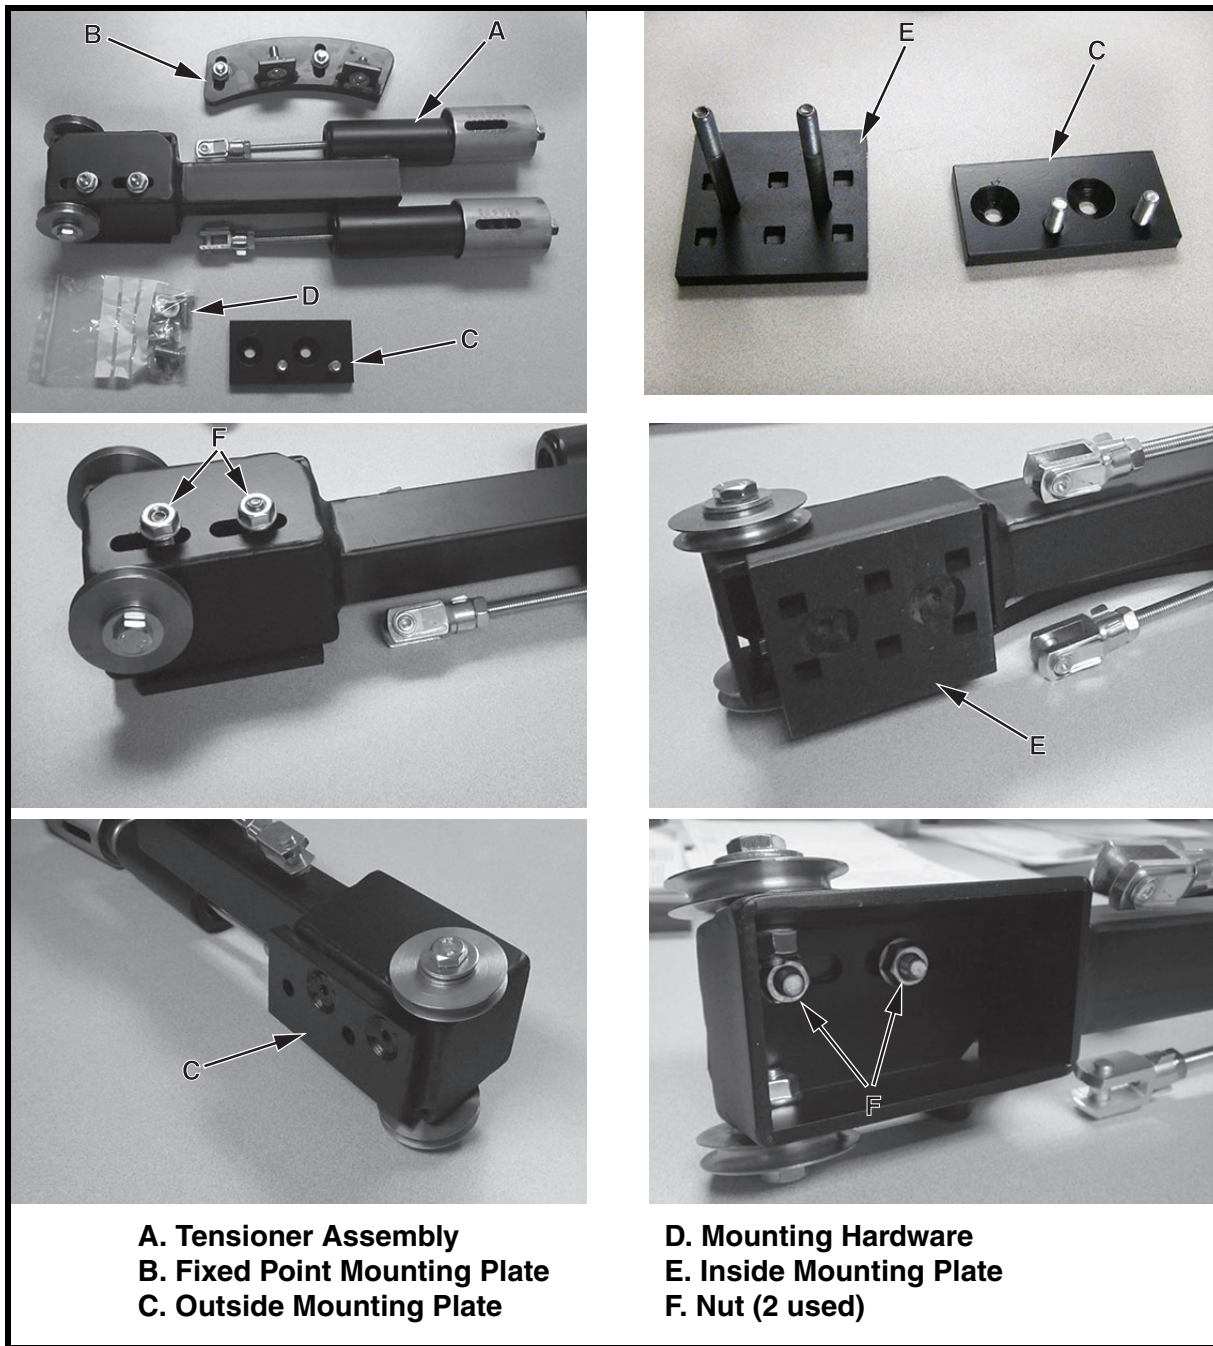
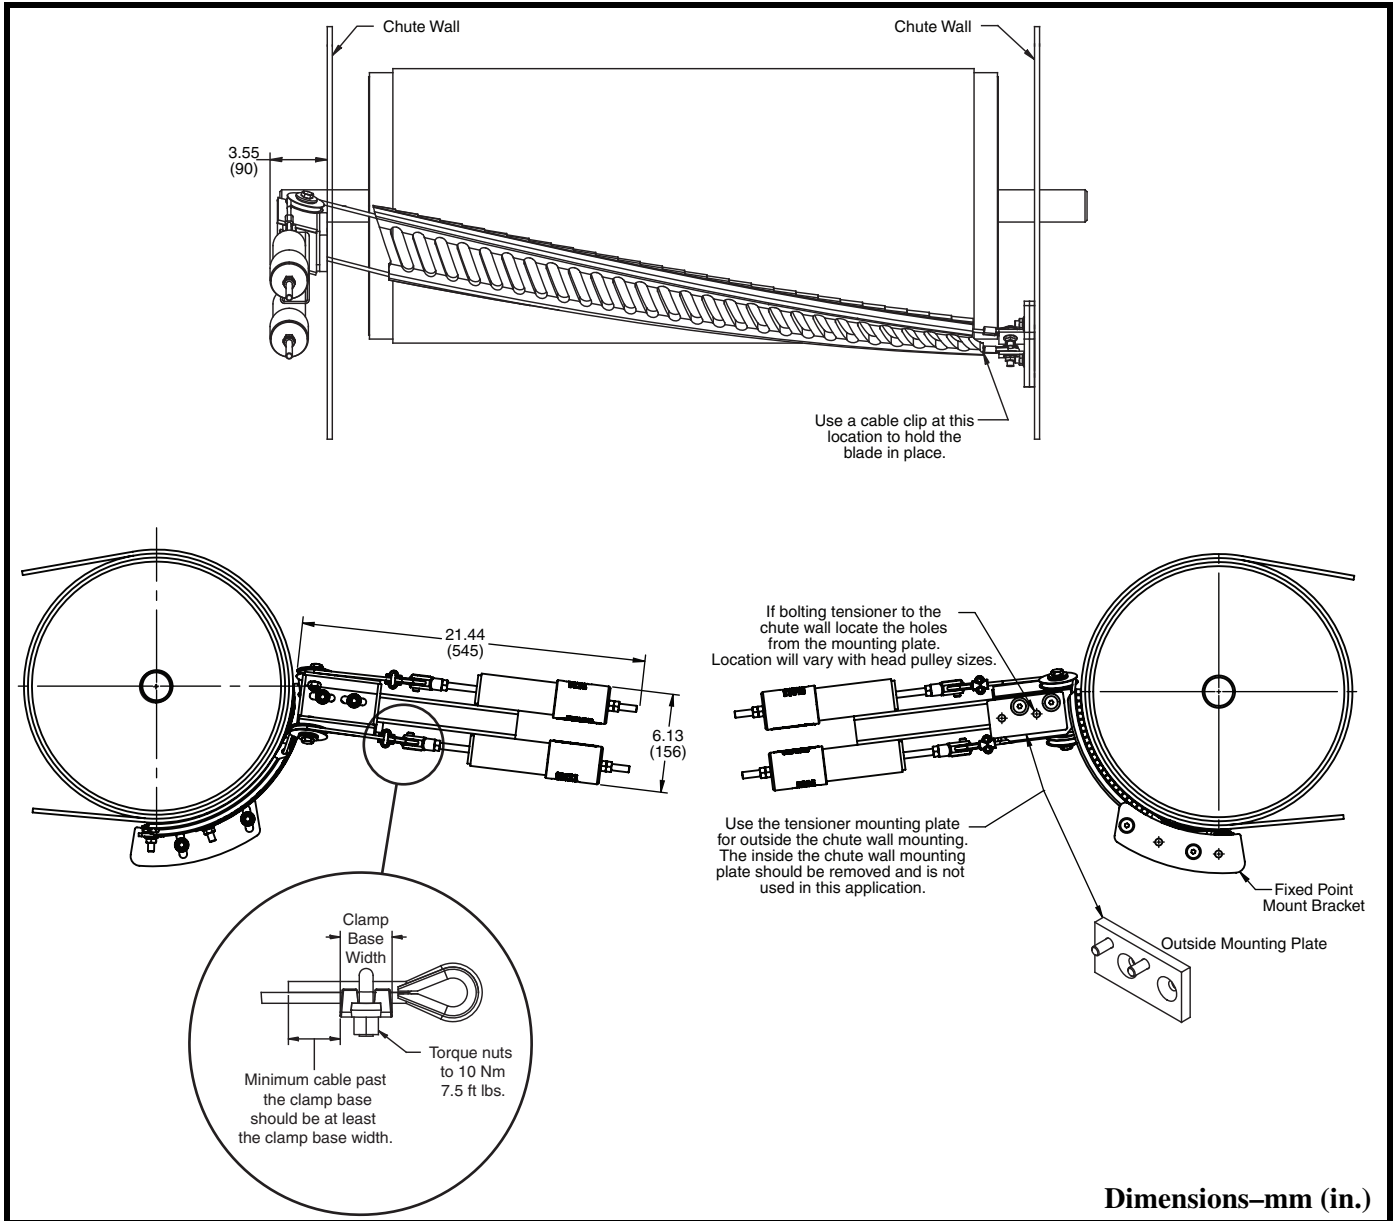

Figure 7. Tensioner Mount Plates
Figure 9. Installing Tensioner on Outside Chute Wall
- c. Install outside mounting plate on tensioner. See Figure 7.
- (1) Remove nuts (F).
- (2) Remove inside mounting plate (E) from tensioner assembly (A).
- (3) Install outside mounting plate (C) on tensioner assembly.
- (4) Install and tighten nuts (F).
- d. Position tensioner in desired location free from obstructions as shown in Figure 9. Make sure cleaner cables will not rub on chute wall cutouts. Reposition tensioner or enlarge cutouts as required.
3. Assemble cable eyelet and clamp as shown in Figure 9.